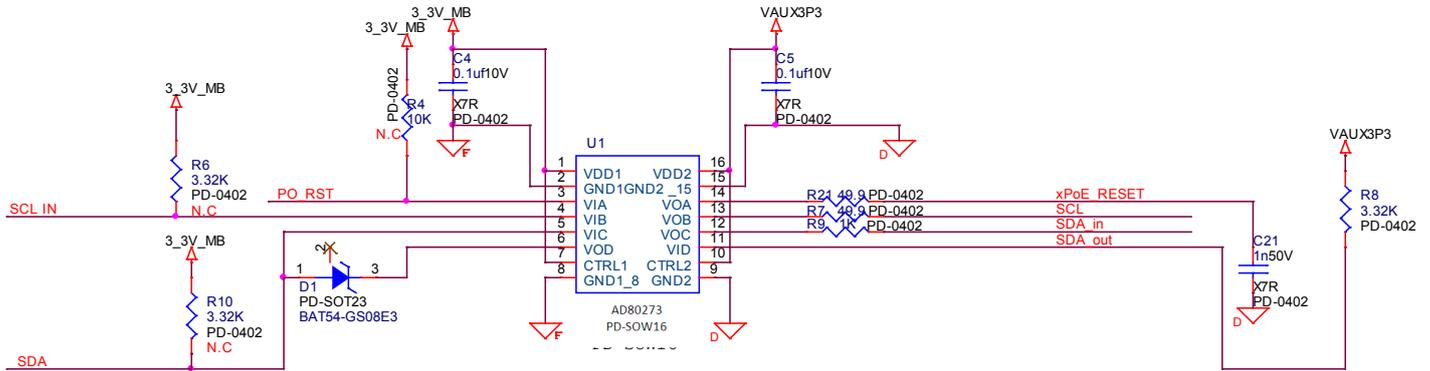
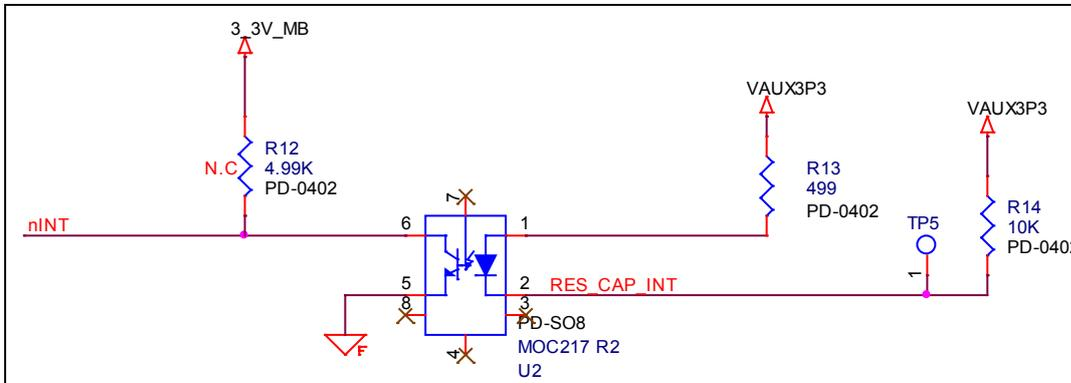

Figure 2: I2C and reset isolation
Figure 3: Interrupt Isolation Circuitry
Interface between Ethernet switch and PoE ICs is a 1500Vrms isolation I2C interface. Note that each side of the circuitry is fed by a separate power supply. Isolation circuit is detailed in Figure 2 .
Control/Indication signals are of single H/W lines type that runs between Host controller and PoE manager. These signals are isolated to achieve 1500Vrms isolation (Refer to Figure 2 & Figure 3).
- xPoE\_RESET signal generate by the Host, resets all PoE managers throw an isolation reset line See Figure 2. All PoE managers reset input lines should be connected together with a pull-up resistor.